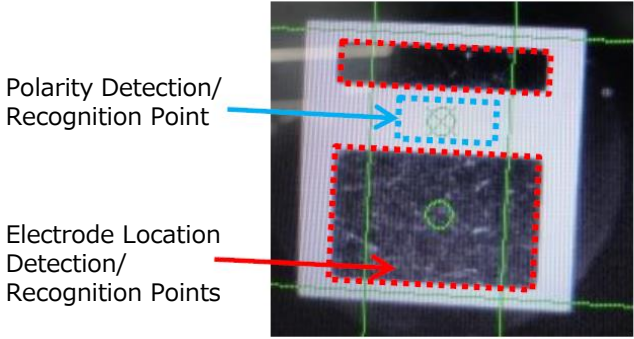

Figure 7. Recommended reference points to detect, recognize, or locate the polarity/electrodes
2. If the imaging device has trouble detecting/recognizing the electrodes due to the uniqueness of the electrode pattern, adjust it to detect/recognize the outer portions of the electrodes (i.e. the areas circled in red in Figure 7 to the left).
3. If an automatic polarity detector is used for the LEDs, set up the imaging device to detect the empty space between the anode and cathode electrodes (i.e. Polarity Detection/Recognition Point in Figure 7 to the left). In the example in Figure 7, the equipment measures the brightness of the empty space against the threshold to locate the electrodes and/or determine the polarity.